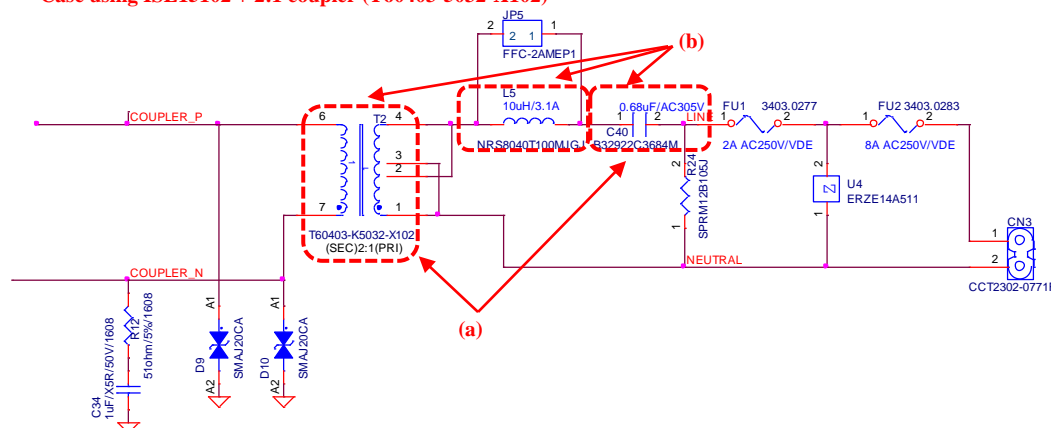

Figure 3-17 Example of impedance measures for EN50065-7 in CENELEC-A band
- The RX impedance at 3kHz-9kHz may not meet the EN50065-7 compatible impedance standard due to the resonance of C40 and T2 (main inductance). To move the peak due to the resonance to the outside of 3kHz-9kHz, it is recommended to set C40 = 0.68uF for the main inductance when using 2:1 of T2 in the part (a) of Figure 3-17.
- The TX impedance at 95kHz-148.5kHz may not meet the EN50065-7 compatible impedance standard due to the resonance frequency of C40 and (L5 + T2(leakage inductance)) in the part (b) of Figure 3-17. Set so that the resonance frequencies of L5 + T2 (leakage inductance) and C40 are within the band of CENELEC-A band. If C40=0.68uF, it is recommended to insert L5=6.8uH.